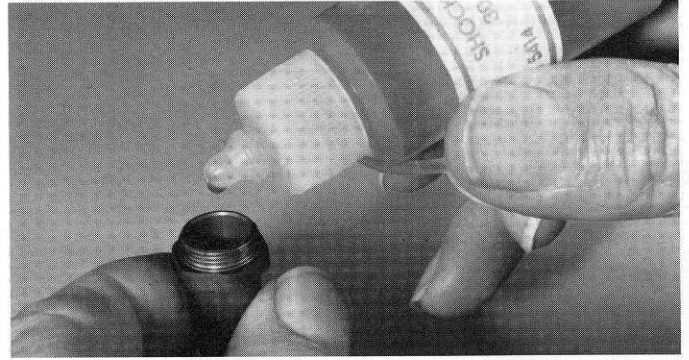

Fig. 119
- **Fig. 119** Fill the front shocks all the way to the top, but fill the rear shocks only to within 1/16" of the top.